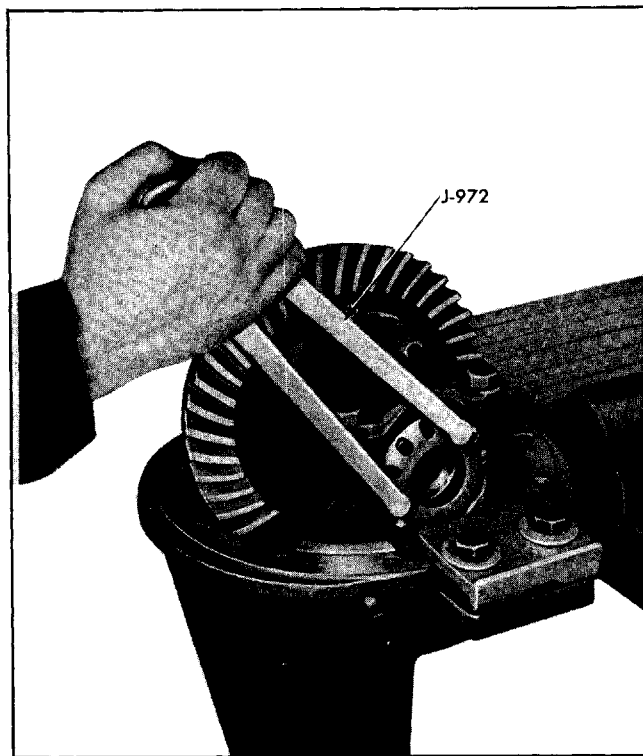

Fig. 4-16 Turning Adjusting Nuts With Wrench J-972
3. Back off right hand adjusting nut using Adjusting Wrench J-972 (Fig. 4-16) and watch outer race of side bearing to see if it turns with adjusting nut. (NOTE: The right hand adjusting nut is farthest from ring gear.) Race should turn with the nut, as nut is backed off, until nut is turned two to four notches (holes in adjusting nut); count notches from original mark to point where race stops turning to check original adjustment and retighten three to four notches.
2. Back off right hand adjusting nut (Fig. 4-16) one notch and tighten left hand adjusting nut one notch (each notch of adjustment will change backlash .003"-.004"). **CAUTION:** Do not decrease backlash below minimum specification of .003". Tap each bearing cap and rock case to ensure proper seating of bearings.